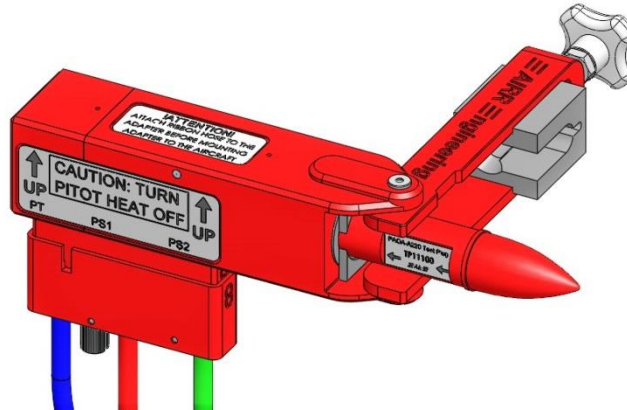

Figure 10: pusher retracted, test plug inserted (note arrows on the test plug label)
- B. Wipe the test plug clean. With the label arrows pointing toward the adapter, slide the test plug into the adapter opening as far as possible (Figure 10)
I. Open the Pitot adapter cam handle (figure 10).